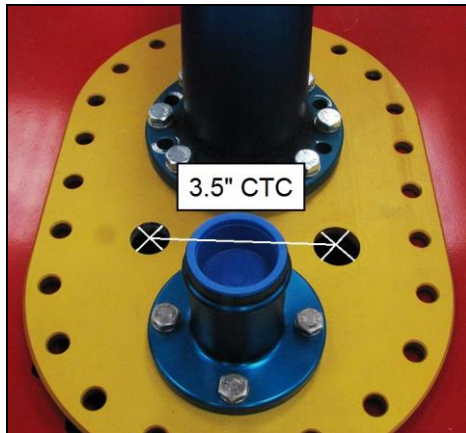

Figure 13
8. Place fill plate on the cell and measure where the feed and return hose should be placed. Drill a  $5/8$ " hole (hole on right - **Fig. 13**) for the AT983210ERL 10AN feed hose bulkhead and a  $3/4$ " hole (hole on left - **Fig. 13**) for the AT983208ERL 8AN return hose bulkhead (bulkheads included in LS0010ERL hose assembly). Make sure there is at least 3.5" center to center on the holes drilled.